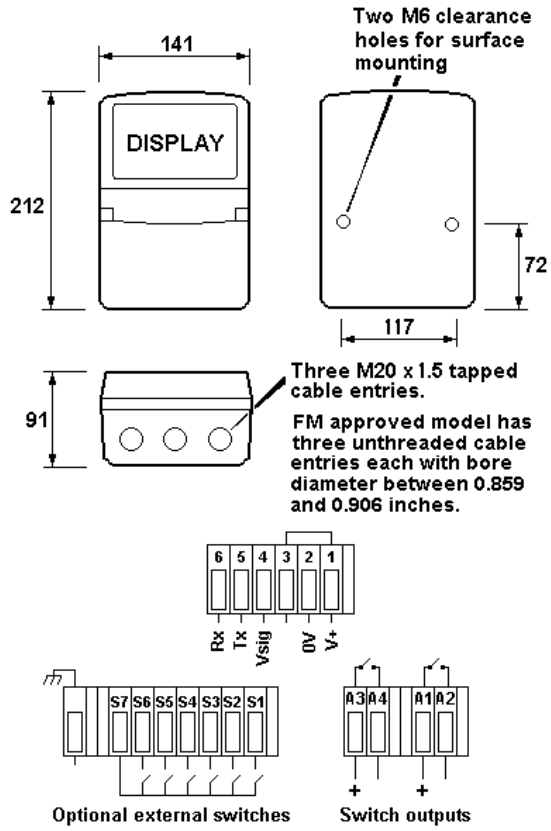

Fig 9 Dimensions and terminal connections
- Connect the field wiring to the terminals as shown in Fig 9.